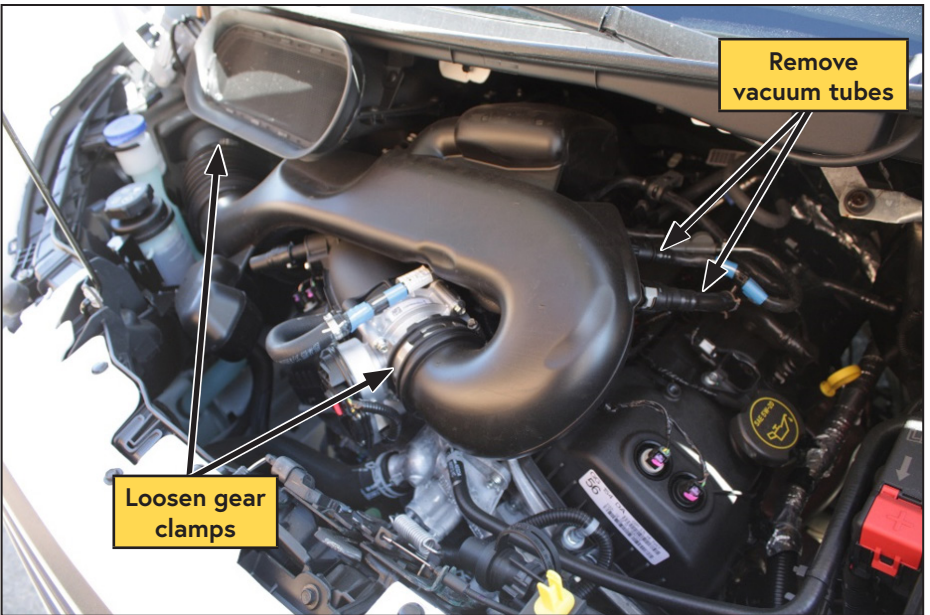

Figure 9 — Remove intake tube
- Disconnect the 2 vacuum tubes from the intake tube (Figure 9).
- Loosen the 2 gear clamps on the intake tube (Figure 9).